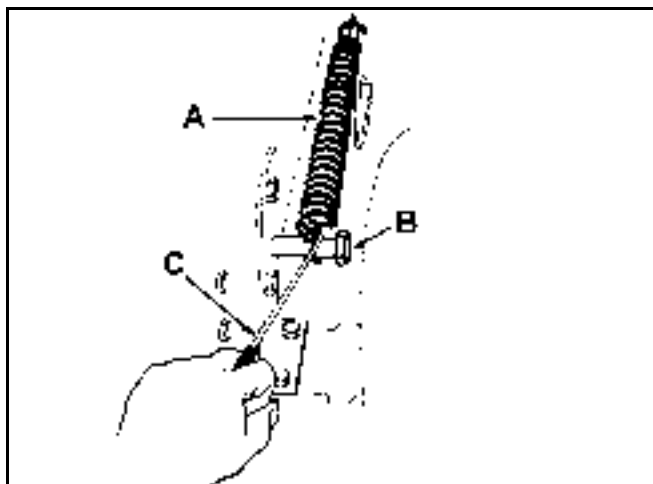

Figure 234
7. Hook the lift assist spring between the mower right side lift bracket and the retaining bolt (Figure 234). Use the spring tool provided with the machine.